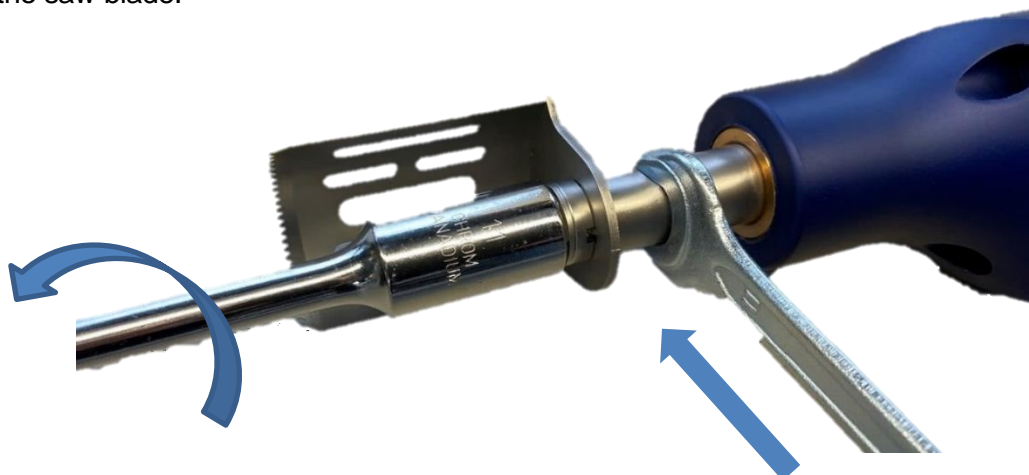

Fig. 4:
2. Apply the fork wrench to the drive shaft behind the saw blade and the T-handle wrench at the front on the screw (see fig. 4).